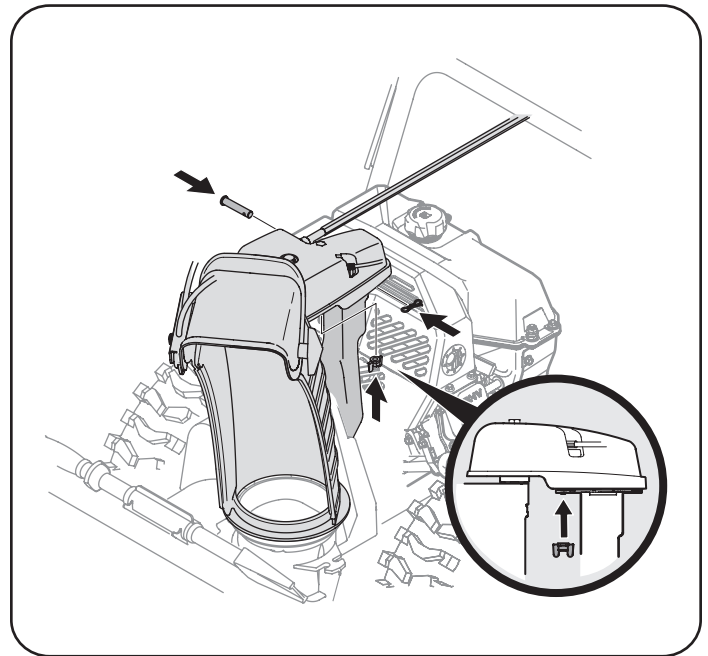

Figure 10
9. Finish securing chute control head to chute support bracket with wing nut, and clevis pin and bow-tie cotter pin removed earlier. Do not overtighten. See Figure 10.